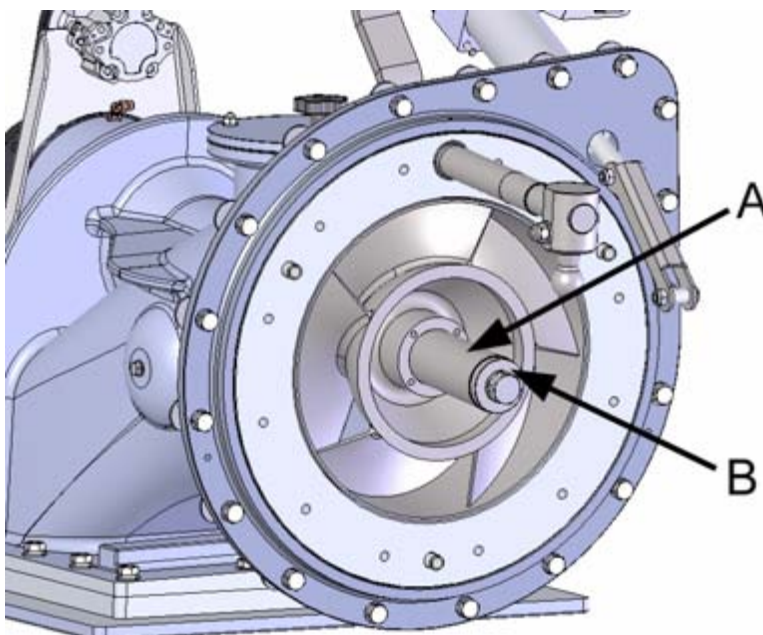

Figure 21. Shaft sleeve
There is a sleeve at the rear end of the shaft (figure 21, point A). A worn sleeve can be replaced. There is a spacer (figure 21, point C) at the end of the shaft, pressing the sleeve and the impeller into place.
6. Install the shaft sleeve, the spacer and the screw in place in reverse order to that when removing them (figure 21).